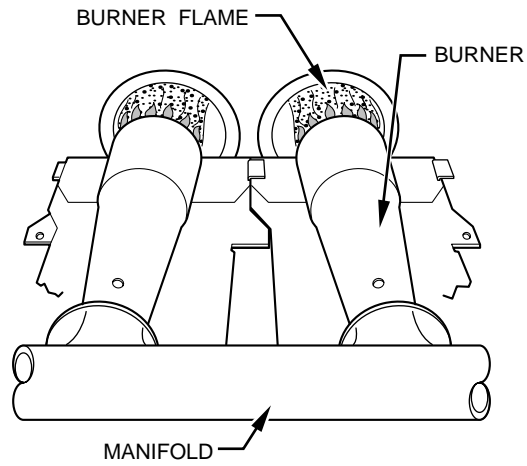

Fig. 28—Burner Flame
- c. When correct input is obtained, main burner flame should be clear blue, almost transparent. (See Fig. 28.) Be sure regulator seal cap is in place when finished.
- d. Main burner flame should be clear blue, almost transparent. (See Fig. 28.)
- e. Main burner flame should be clear blue, almost transparent. (See Fig. 28.)